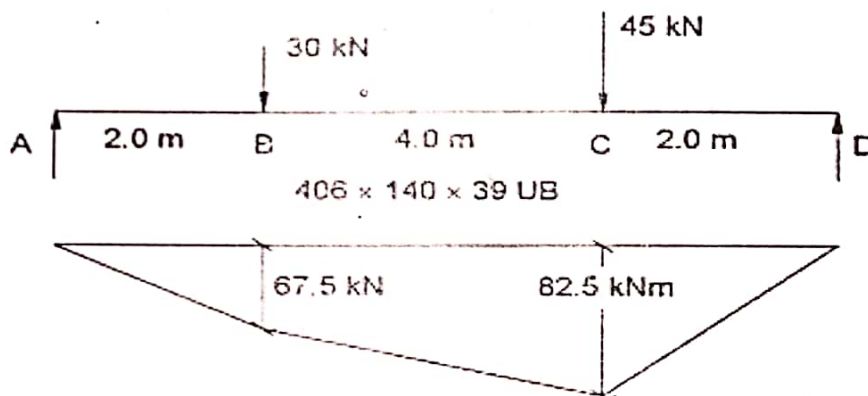

Figure 1
- (a) A single span beam of 8.0 m span supporting two factored point loads is shown in Figure 1. Assuming lateral and torsional restraint to the compression flange at the ends and points of application of the loads only, check the suitability of a $406 \times 140 \times 39$ UB with respect to bending. Neglect self-weight, i.e. the beam is not loaded between adjacent lateral restraints.